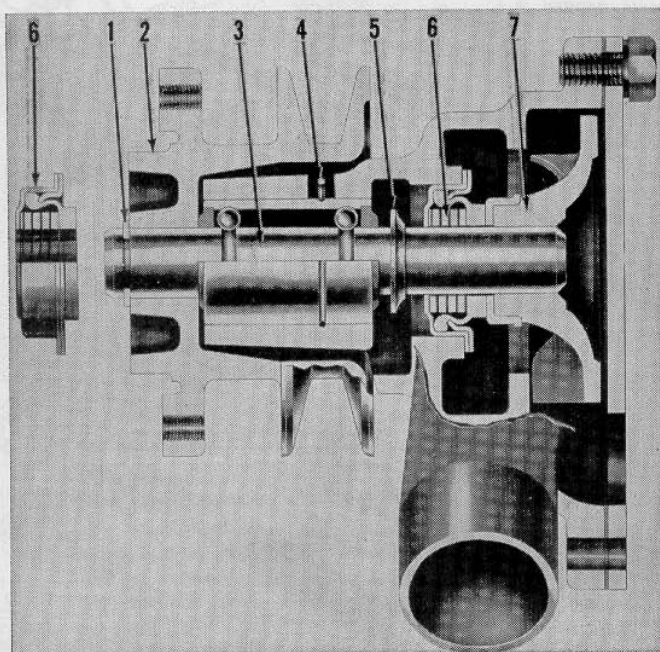

Fig. FO40—Water pump cross section model 8N.
48. To disassemble pump, remove lock ring (1—Fig. FO40) and rear cover plate and pull (don't drive) off pulley (2). Extract bearing snap ring (4) and press shaft and bearing (3), seal (6) and impeller (7) assembly out of pump. Press impeller off shaft and remove seal (6) and slinger washer (5). Renew worn or damaged parts, reassemble parts as shown with impeller approximately 1/32 inch below surface of housing.